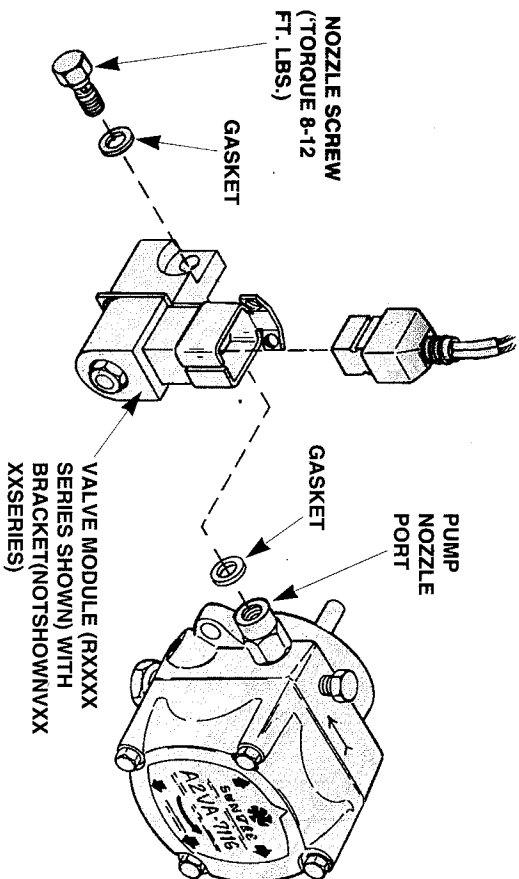

Figure 1 • Valve Installation
B. INSTALLATION (See Figure 1)
2. Rotate valve module as shown in Figure 1 or according to the burner manufacturer's recommendations if applicable.